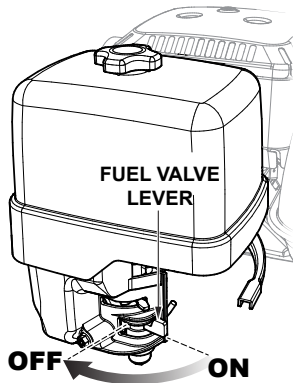

Figure 23. Fuel Valve Lever (OFF)
- Place the fuel shut-off lever (Figure 23) in the "OFF" position.